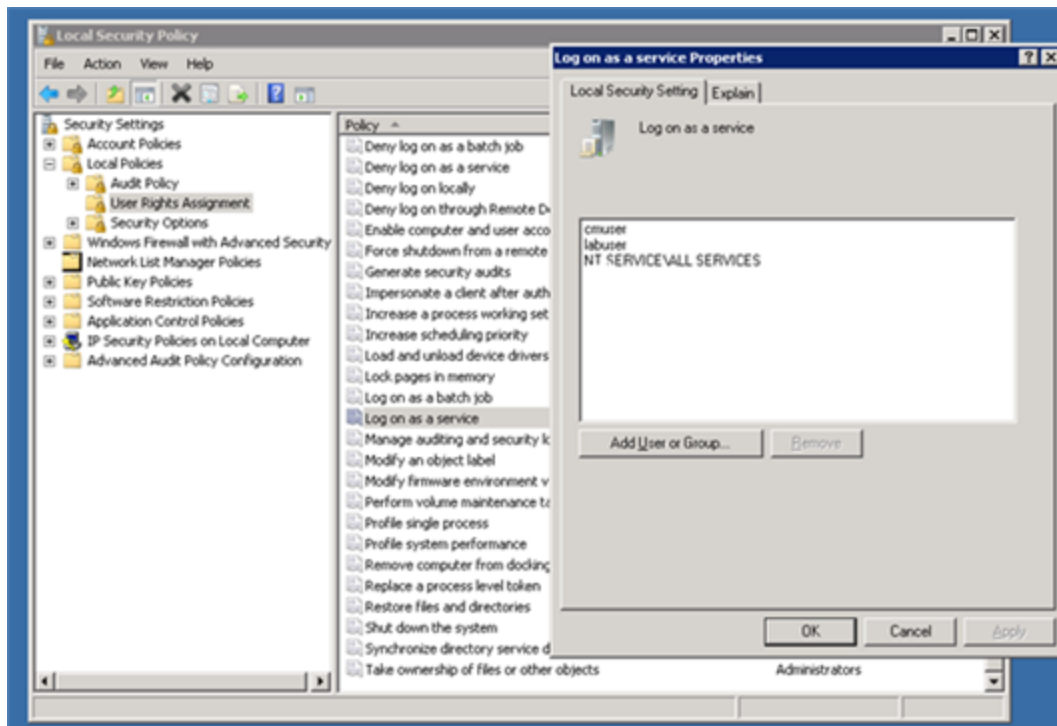

Figure 2.2: Associating the user to the Logon as a service policy
- A list of policies will then appear in the context sensitive right panel. Clicking the **Logon as a Service** policy will invoke the **Logon as a service Properties** window (see Figure 2.2).